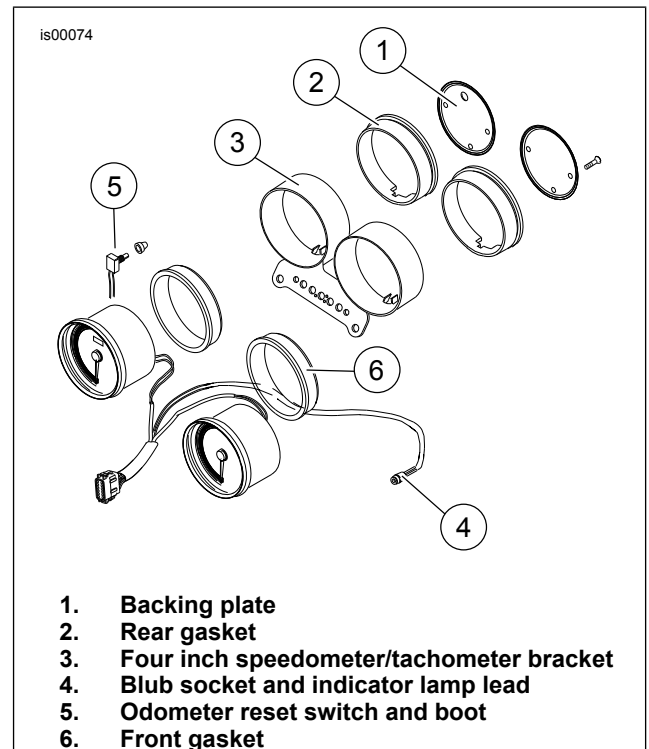

Figure 4. Four-Inch Speedometer/Tachometer (XL 1200R and FXDX)
1. See Figure 4. Unthread trip odometer reset boot from back of speedometer housing.